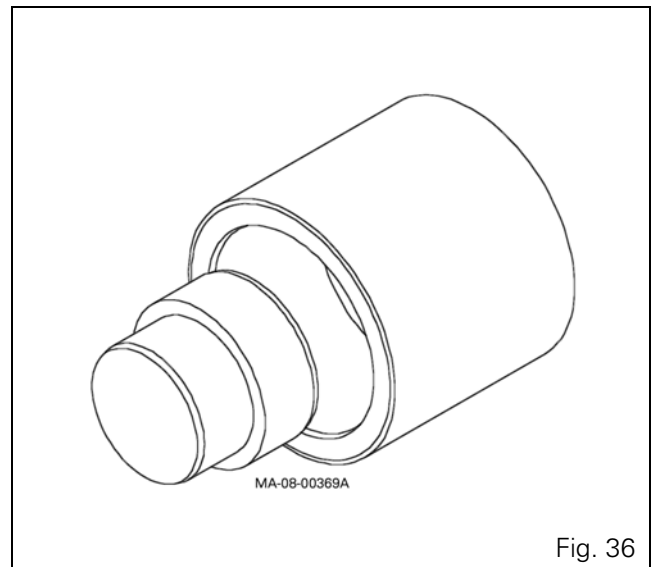

Fig. 36
- CA 715345 - Oil plug (Fig. 36)